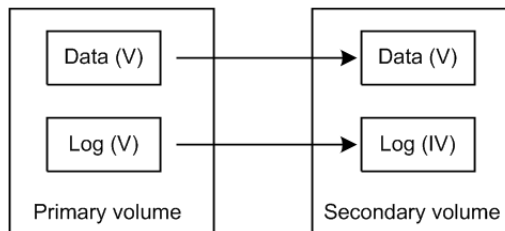

Figure 6-12 Relationship between logs (journal) and data in paired status
Figure 6-12 Relationship between logs (journal) and data in paired status on page 6-32 shows the relationship between redo log files (journal) and data files. If the S-VOL takes over from the P-VOL in the status shown in Figure 6-12 Relationship between logs (journal) and data in paired status on page 6-32 (where two errors have occurred), the secondary host leaves data (V) unprocessed in the roll-back processing and cannot be recovered completely. Therefore, the fence level of a redo log file must be defined as data. Once the fence level is set to data, the P-VOL returns an error if data might possibly be inconsistent when a write request is issued by the host. Since writing to the data file is not executed due to a write error of the redo log file, the log file stays consistent with the data file. However, when the fence level is set to data, a write I/O error occurs even in the case where operation is suspended due to an error in the S-VOL. Accordingly, duplication becomes meaningless when the S-VOL takes over. Thus, applications using paired volumes with the data fence level should be able to handle write I/O errors properly. For example, the Oracle application creates multiple redo log files by itself (three by default). The fence level can be set to data in this case in which disk errors are permissible by creating multiple files.